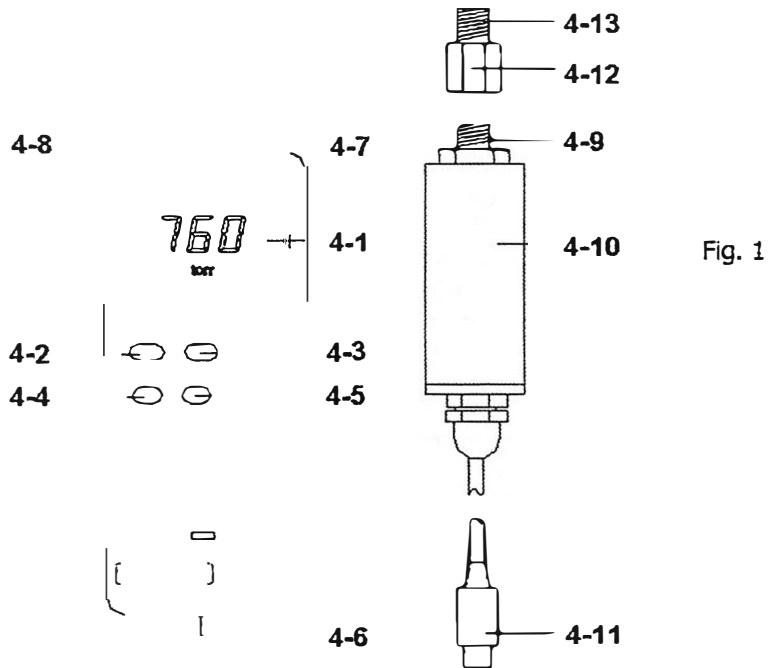

Fig. 1
- 1) Plug the " Plug of Vacuum Sensor " (4-11, Fig. 1) into meter's " Sensor Input Socket " (4-7, Fig. 1).
- 2) Power on the meter by pressing the " Power Button " (4-2, Fig. 1).
- 3) To select different measuring unit by pressing the " Unit Button " (4-5, Fig. 1). There are eight units for your choice.
- 4) Connect the " Port Connector of Vacuum Sensor " (4-9, or 4-13, Fig. 1) to the equipment that intend to be measured the vacuum value.
During the measurement, pushing the " Data Hold Button " (4-3, Fig. 1) will freeze the measured value on display and there will indicate a " HOLD " symbol.
- * The DATA RECORD function displays the maximum and minimum readings. To start the DATA RECORD function, press the " Max./Min. Button " (4-4, Fig. 1) once. " REC " symbol will appear on the LCD display.
- a) Push the " Max./Min. Button " (4-4, Fig. 1) once, the " Max " symbol along with the maximum value will appear on the display.
To inactivate this feature by pressing the " Max./Min. " button (4-4, fig. 1) to get into the memory record function during the measurement.
The instrument features an RS232 output via 3.5 mm Terminal (4-8, Fig. 1).
- 2) Slide the " Battery Cover " (4-6, Fig. 1) away from the instrument and remove the battery.